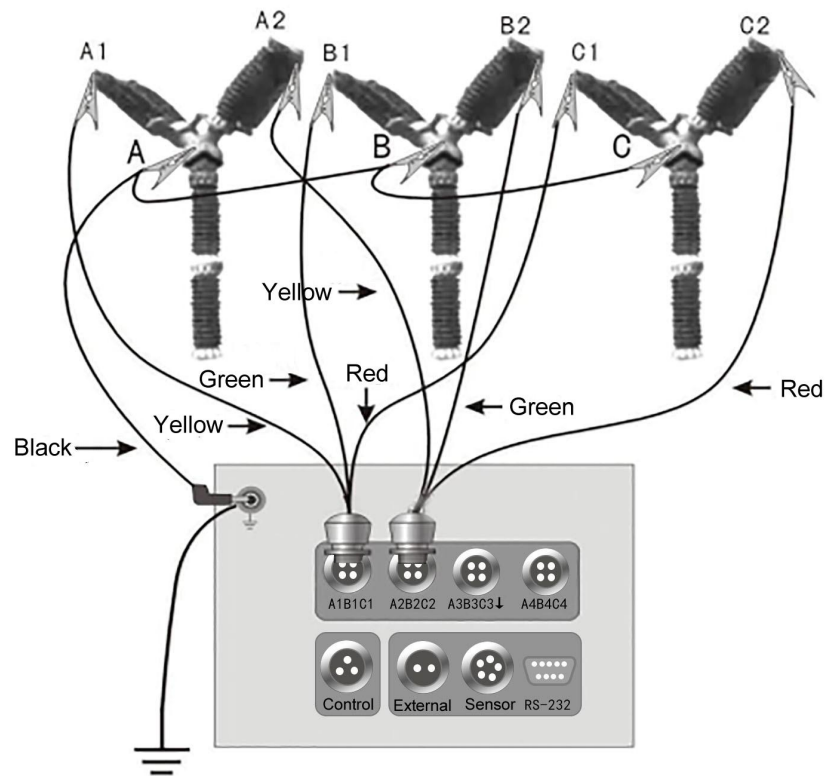

Figure 10. Six switches wiring
② six switches wiring of circuit breaker is shown in Fig 10.